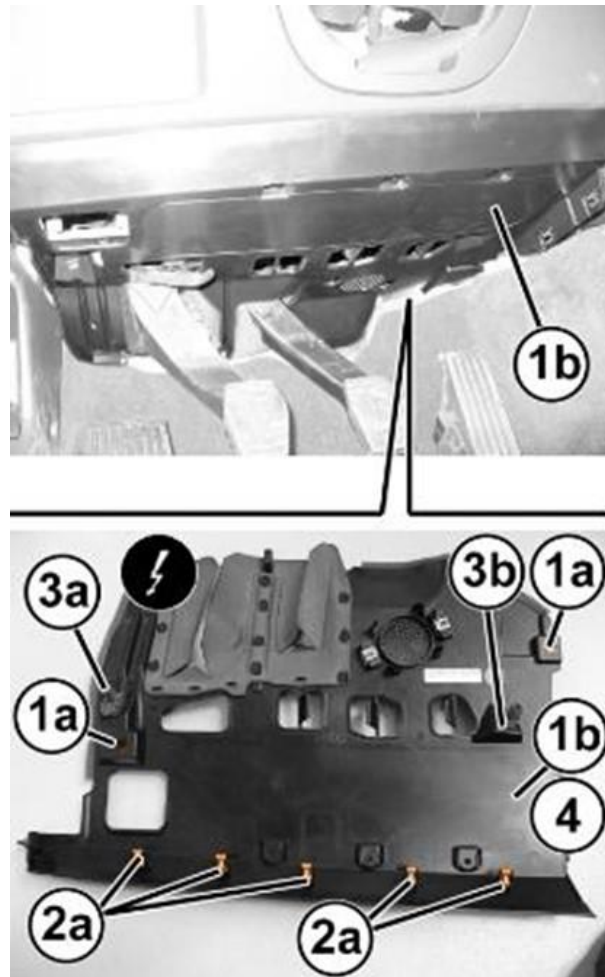

Figure 5 – Bottom Trim
11. Unscrew the screws from the holes (1a) of the bottom trim (1b) to be removed (Figure 5).
12. Move the bottom trim (1b) back and disengage the retainers (2a) (Figure 5).
13. Lower the bottom trim (1b) and disconnect the electrical connections from the courtesy lights (3a) and (3b) (Figure 5).
14. Remove the bottom trim (1b) (Figure 5).